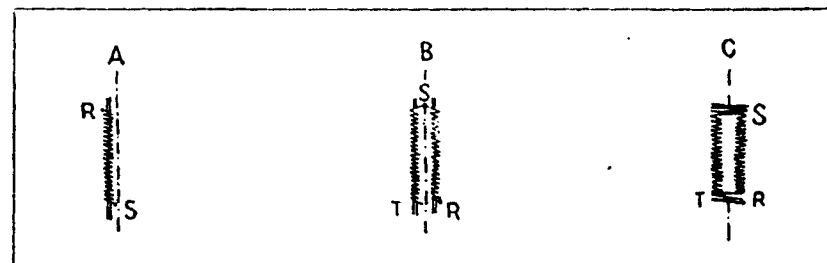

Fig. 24
16. Lower the presser foot—sew approx. 10 stitches from U-R (Fig. 24 E).
4. Start sewing the first side of the button hole to the length desired, from R to S as shown in Fig. 24 A.
6. Turn material Right 180° using needle as pivot axis. See Fig. 24 B.
8. Sew a few full width stitches as shown in Fig. 24 C.
9. Set zigzag width indicator to 2. Sew second side of buttonhole to T as shown in Fig. 24 B.
10. When you have reached the desired length, close the end by setting zigzag width indicator to 5 and make a few full width stitches, as shown in Fig. 24 C.